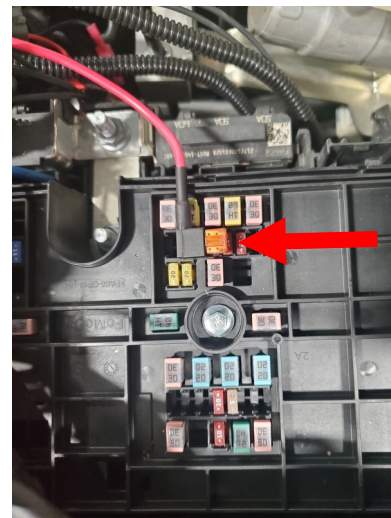

Figure 15.
**12.** Insert the add-a-fuse connector into slot 25. See figure 15 for more detail.